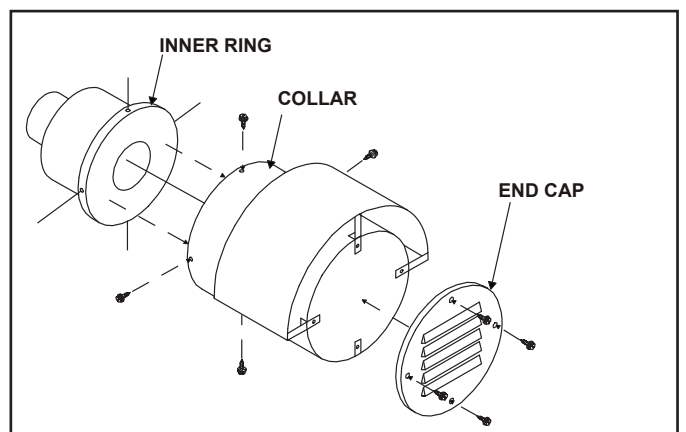

Figure 4.47
- Fasten the wire mesh to the 10-1/2" collar to cover the exhaust port hole, using (4) sheet metal screws.
- Slide the inner ring inside the cap assembly, carefully positioning the inner ring to its original orientation. See Figure 4.47. Carefully align the screw holes on the 10-1/2" diameter collar and the inner ring.